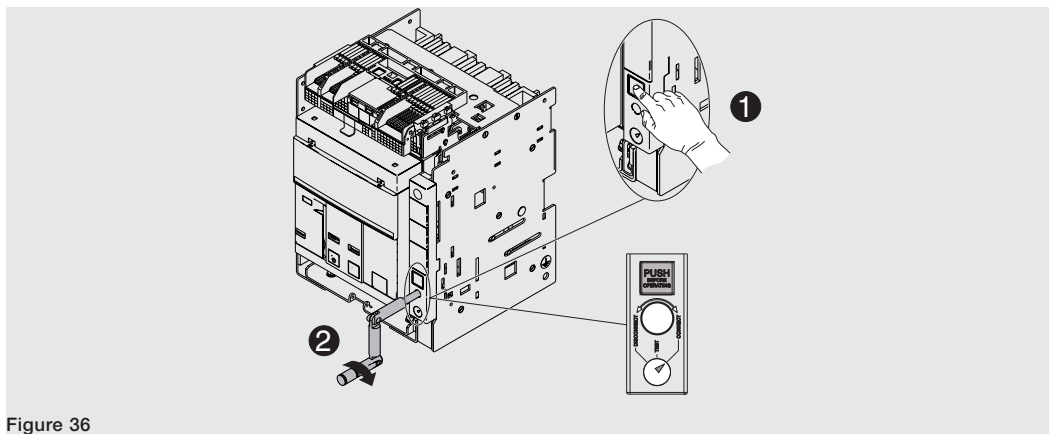

Figure 36
7. Press the lock button and then rotate the crank clockwise until the button comes out and the indicator shows that the circuit-breaker is in the **CONNECT** position. See Figure 36.